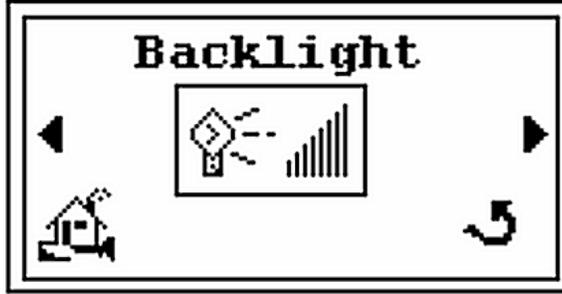

Figure 2-27 Backlight Screen
2. Press the  and the *Backlight* screen appears (Figure 2-27).